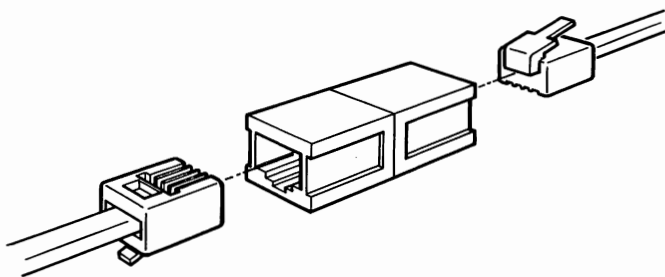

Figure 2-10 Connecting two modular cords with a 451A Adapter
- Determine whether the cord is long enough to connect the workstation to an NEU. If not, connect it to another DW8A-DE cord with a 451A Adapter (Fig. 2-10).